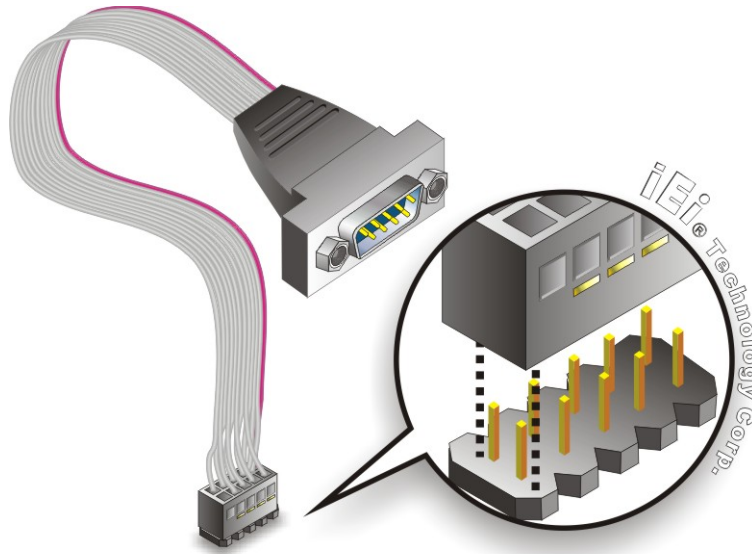

Figure 4-14: Single RS-232 Cable Installation
- Step 2:** **Insert the cable connector.** Insert the connector into the serial port box header. See **Figure 4-14**. A key on the front of the cable connectors ensures the connector can only be installed in one direction.